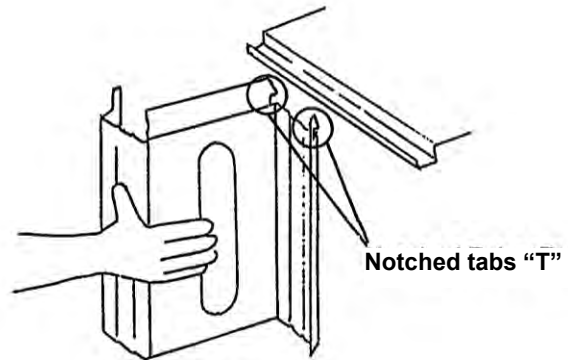
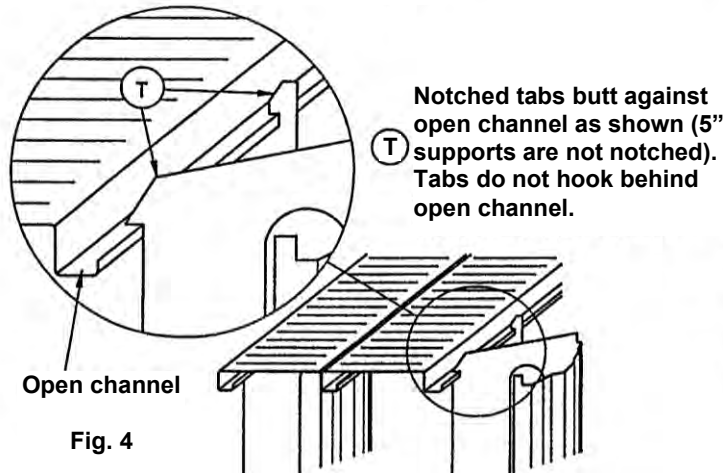

Fig. 3
Fig. 4
5. Position next row of supports. Pick up support so both notched "T" tabs are away from you. See Fig 3. Slide support against open channel so both notched "T" tabs fit over open channel. See Fig. 4.